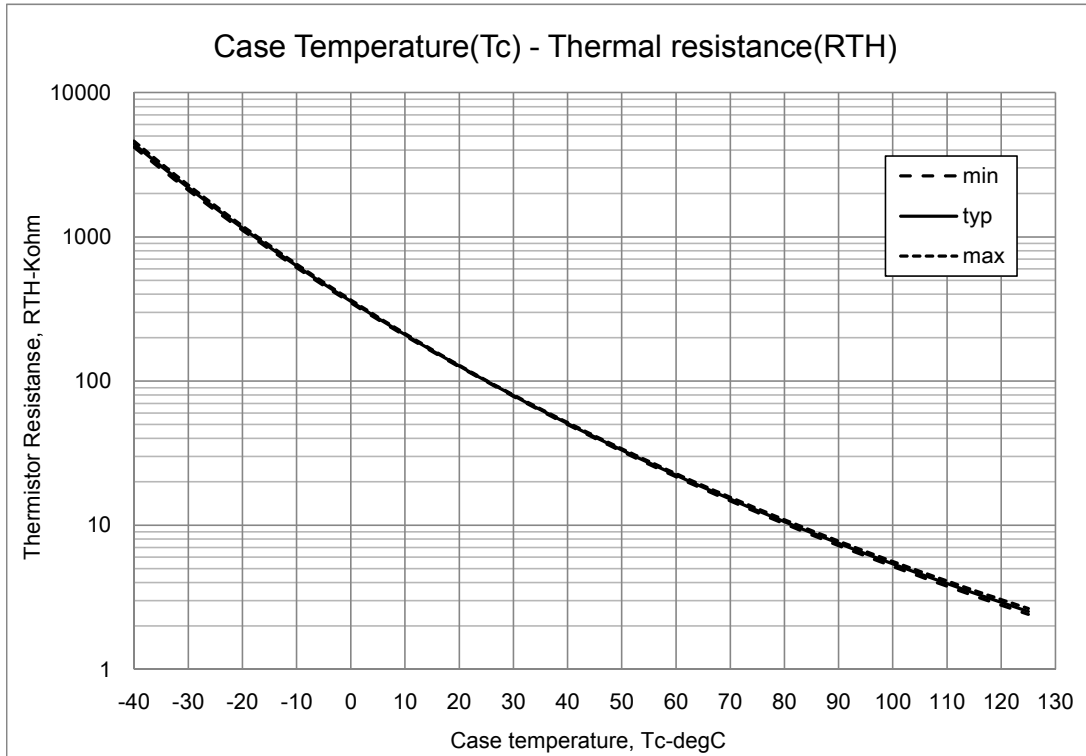
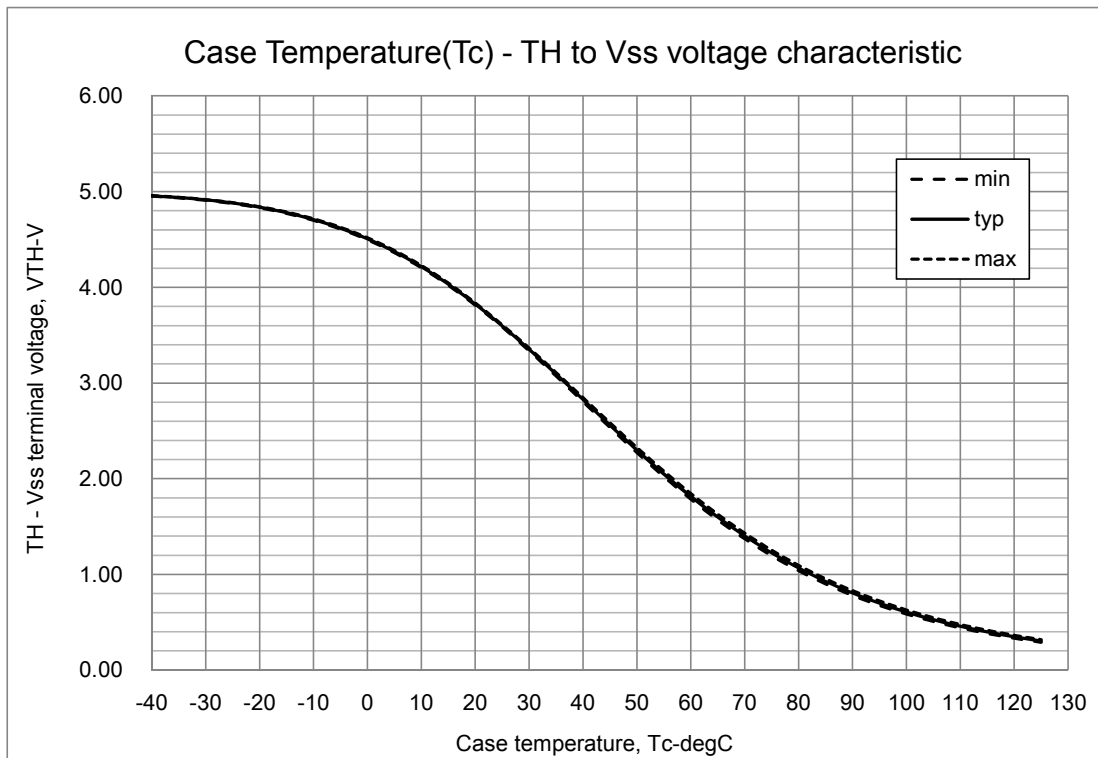

Fig.10 Variation of thermistor resistance with temperature
Fig.11 Variation of thermistor terminal voltage with temperature (39 kΩ pull-up resistor, 5 V)
5. Inside the IPM, a thermistor used as the temperature monitor for internal substrate is connected between VSS terminal and TH terminal therefore, an external pull up resistor connected between the TH terminal and an external power supply should be used. The temperature monitor example application is as follows, please refer the Fig.10, and Fig.11 below.